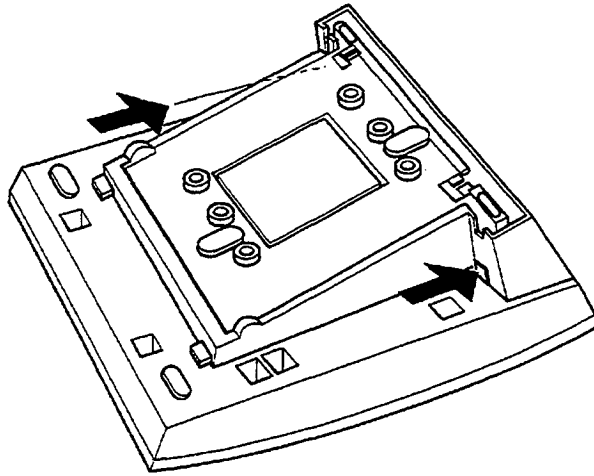

Figure 1-72 Remove the Tilt Panel on the Digital Multiline Terminal
2. Press both the left and right ends of the tilt panel on the back of the terminal and remove it. Refer to Figure 1-72 Remove the Tilt Panel on the Digital Multiline Terminal